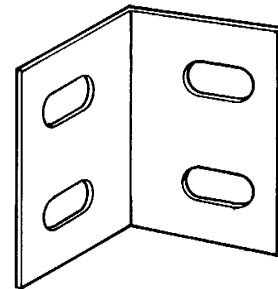

Fig. 1 — Mounting Bracket, Overhead Suspension
The overhead suspension accessory enables horizontal ceiling mounting of 6 to 30 ton packaged air-handling units. Each accessory kit contains 4 brackets (Fig. 1) to be
3. Using the screws removed in Step 1, attach the mounting brackets (Fig. 1) to the unit. Use the outer slot in each bracket as shown in details A and B in Fig. 2. Tighten all screws.